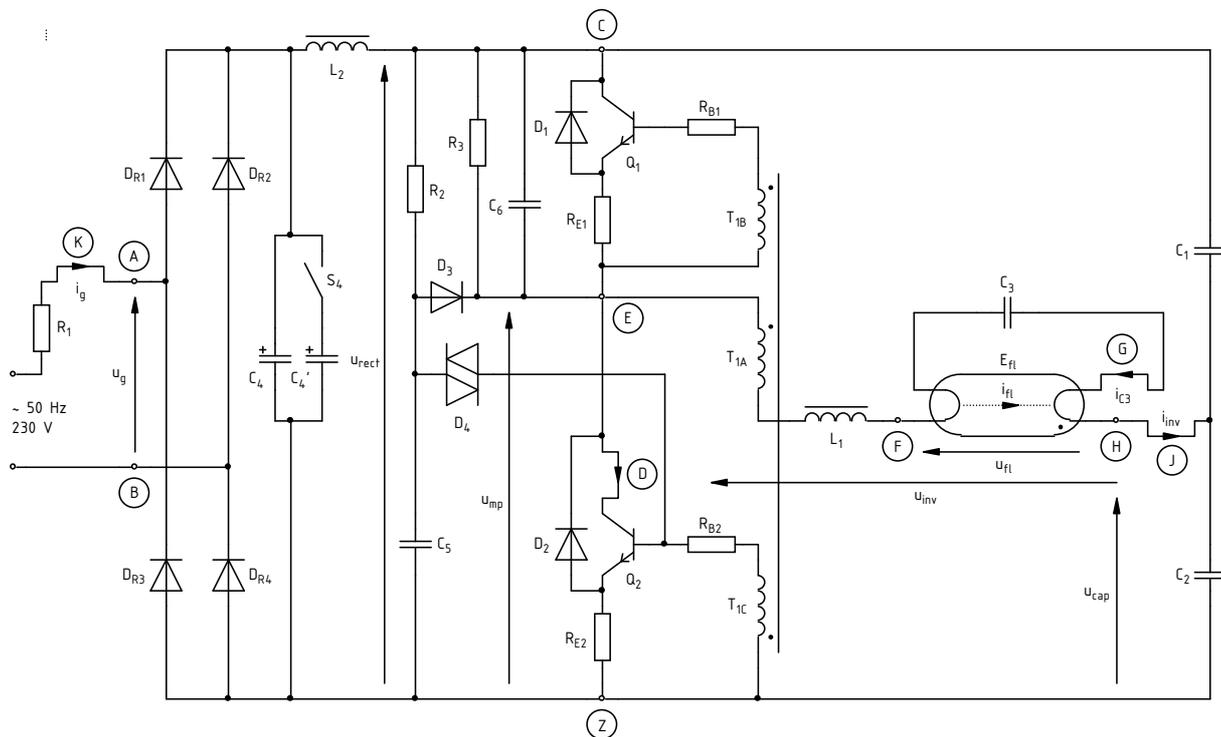

Fig. 1. Electrical schematic of the fluorescent lamp ballast under investigation with measurement points and wires marked that have been lead out to its panel
The appliance under investigation in this exercise is a compact fluorescent lamp, F10DBX/T4/840/4P, whose nominal power is $P_n = 11$ W, with an electronic ballast whose nominal supply voltage is $U_n = 230$ V. A complete schematic diagram of the ballast is shown in Fig. 1. As it can be seen (see Ref. B), this circuit belongs to the half-bridge family. In the AC diagonal of the bridge, the lamp E_{fl} , the choke (inductor) L_1 and the transformer's primary winding T_{1A} have been inserted.
The experimental circuit enables voltage measurements using voltage probes. Banana sockets and connectors are provided for this purpose that enable probes to be attached. Socket locations in the diagrams (Figs. 1 and 2) are marked with empty dots and labelled with letters as A, B, C, E, F, H and Z. The point Z will be considered the circuit's ground. Therefore, the potential at point C is equal to the rectified voltage u_{rect} that supplies the inverter. Most voltages will be measured with respect to point Z.
It is also possible to measure currents by clamping a current probe around one of the wires led out above the circuit's top panel and on its back side. The locations of these wires is marked in the diagrams (Figs. 1 and 2) with offset lines and letters D, G, J and K. Arrows shown both in the diagrams and on the panel indicate current directions to be assumed as positive.
- (a) carefully clamp the current probe around the wire fragments labelled as i_G and i_f so that to observe the lamp current i_{fl} , which is inaccessible in practice, as the difference of the current flowing into the lamp and the current of the capacitor C_3 (mind current directions in the electric circuit according to Fig. 1; the direction assumed as positive in the probe is indicated by an arrow on its jaws);
11. Observe the transistor Q_2 collector current i_{C2} in relation to the lamp current i_{fl} as well as to this transistor's collector-emitter voltage u_{CE2} (which, to a good approximation, is equal to the half-bridge leg middle point potential u_{mp} , see Fig. 1):
- (b) transfer the current probe to clamp it around an appropriate wire so that to observe the Q_2 transistor collector current i_{C2} (mind its direction according to Fig. 1); do not modify any other settings on the oscilloscope;
- (c) in order to make comparisons between the i_{C2} and i_{fl} waveforms easier, due to their directions opposing each other (see Fig. 1), invert the i_{C2} waveform by pressing *2*, then switching *Invert* to *Off*;